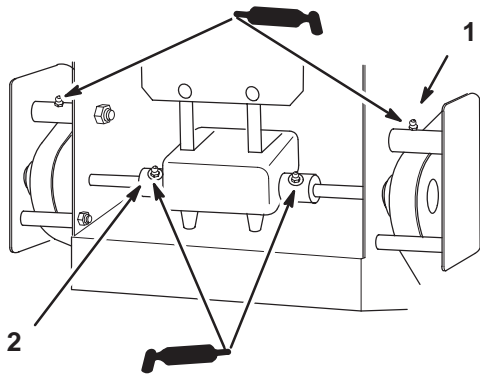

Figure 39
- Lubricate the transmission couplers every 100 hours and idler arm pivots every 8 hours (Fig 39).